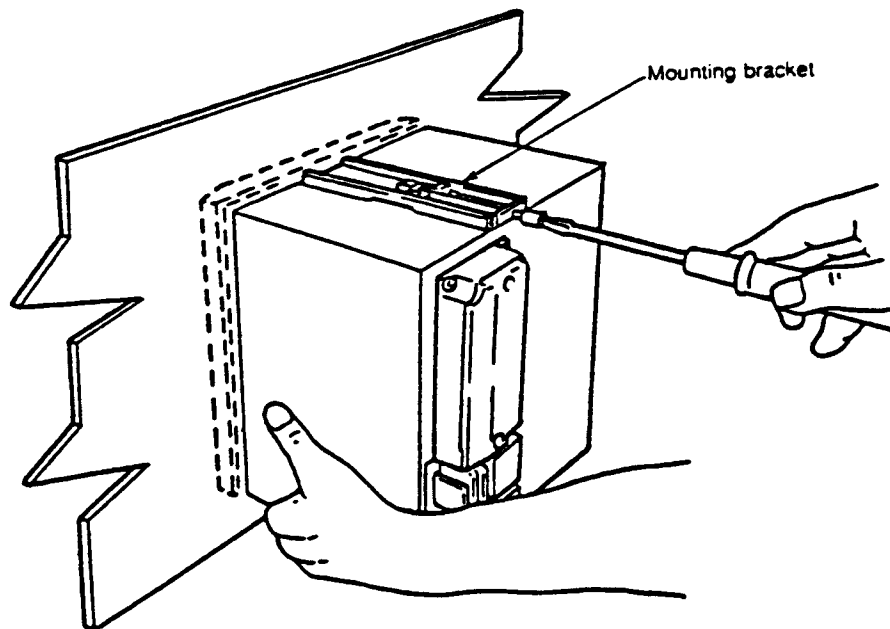

Figure 1-7. Mounting
3. Hold the bottom of the RD1800 and mount it on the panel using the mounting brackets supplied, as shown in Figure 1-7. (If still in place, remove the seals covering the holes for the mounting brackets.)